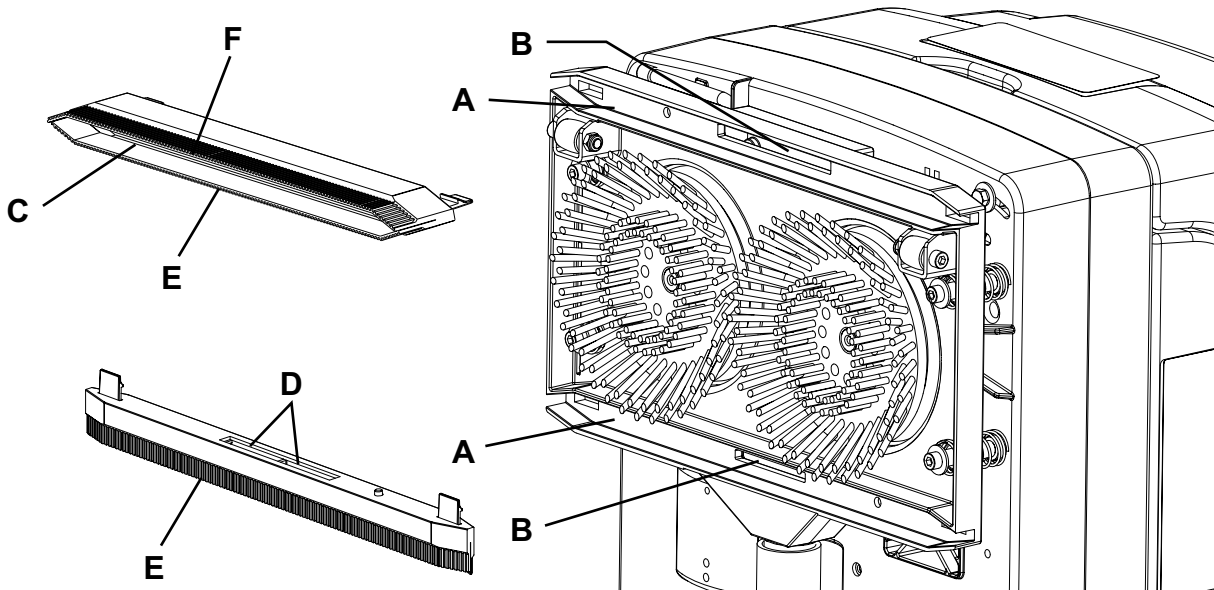

Figure 2
2. Make sure that the power supply cable (10) is disconnected from the electrical mains.
3. To reach for the brush/squeegee-holder deck, lift the machine by using the handlebar (2).
4. Remove the squeegees from the deck by pressing the mounting springs (27).
5. Check the brush/squeegee-holder deck (9) and clean it, in particular, clean the compartments (A, Fig. 2) and the vacuum hole (B).
6. Clean the squeegee. In particular, clean the compartments (C) and the vacuum hole (D).
7. Check that the blade (E) and the blade (F) are integral and free from cuts and lacerations; if necessary replace them.